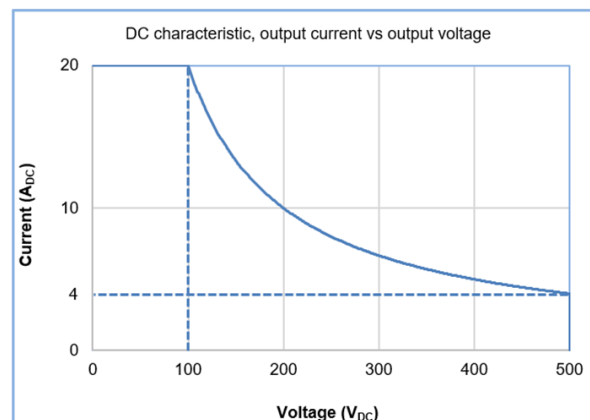
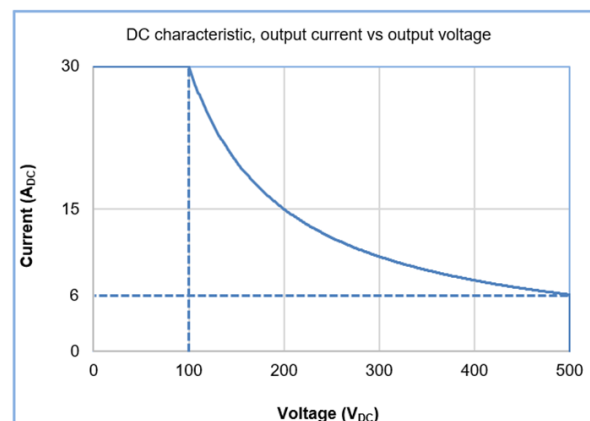
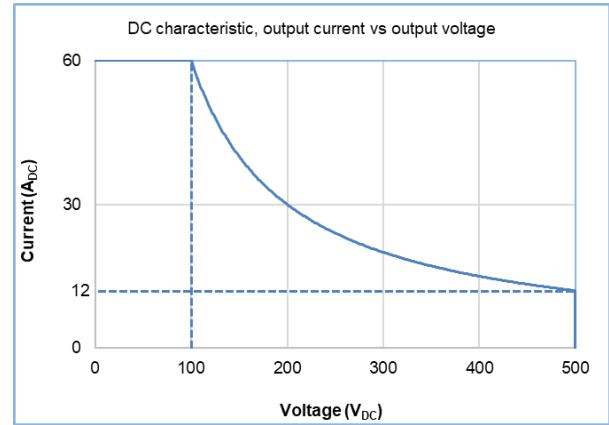
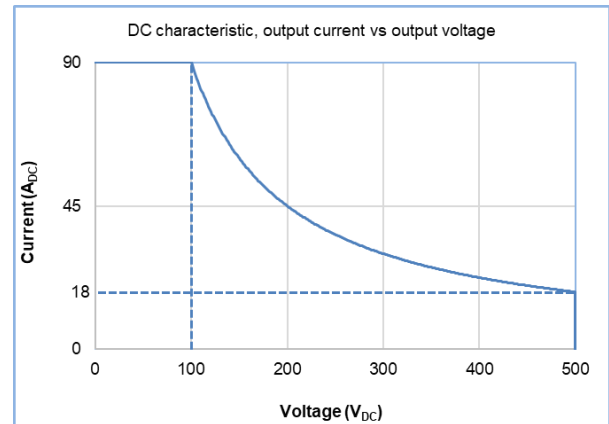

Figure 2: 2kW DC characteristic
Figure 4: 3kW DC characteristic
Figure 6: 6kW DC characteristic
Figure 8: 9kW DC characteristic
- *6: Maximum DC voltage setting range is associated with the output current setting. When the output current setting is above 4A for 2kW, 6A for 3kW, 12A for 6kW or 18A for 9kW the output voltage setting is limited to rated output power. Refer to Figure 2, Figure 4, Figure 6 or Figure 8.